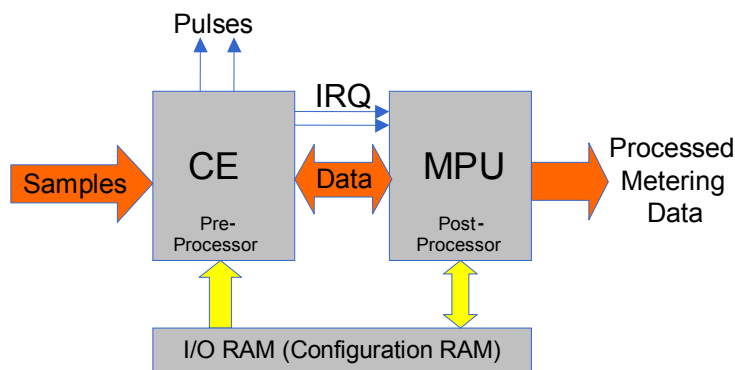

Figure 29: MPU/CE Data Flow
The data flow between the Compute Engine (CE) and the MPU is shown in Figure 29. In a typical application, the 32-bit CE sequentially processes the samples from the voltage inputs on pins IA, VA, IB, and VB, performing calculations to measure active power (Wh), reactive power (VARh), A²h, and V²h for four-quadrant metering. These measurements are then accessed by the MPU, processed further and output using the peripheral devices available to the MPU. Figure 29 illustrates the CE/MPU data flow.